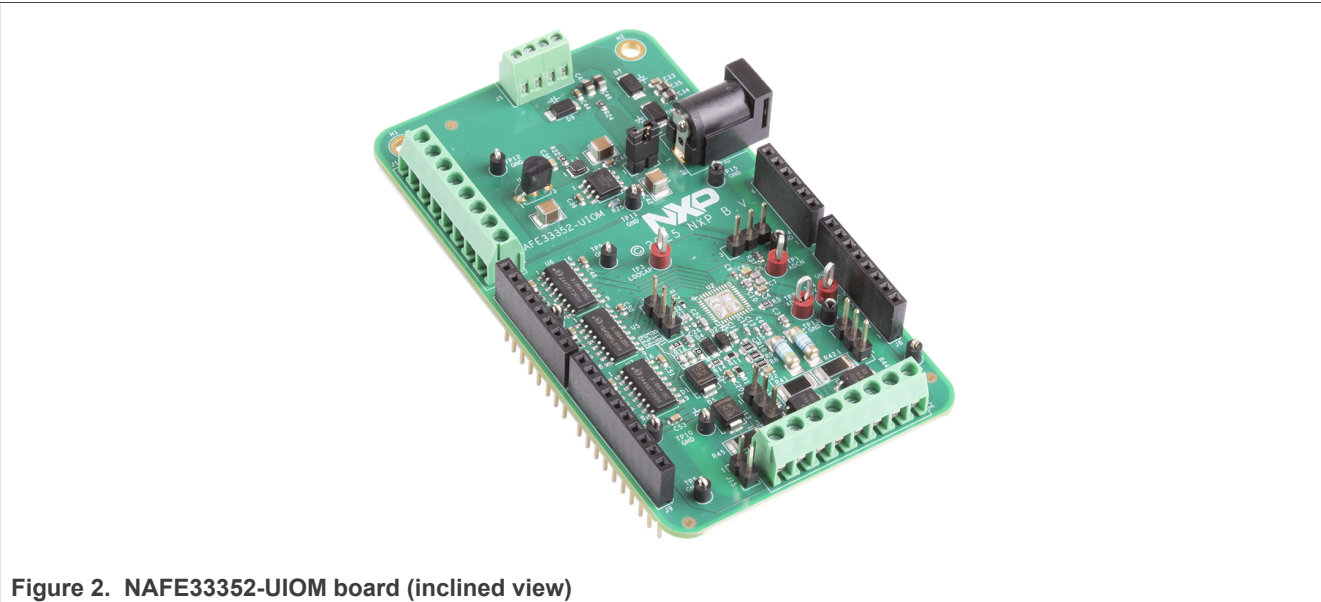

Figure 2. NAFE33352-UIOM board (inclined view)
Step 2: To connect both boards, slide J8, J9, J10, and J11 male connectors at the bottom side of the NAFE33352 (AFE) evaluation board into the appropriate female connectors on the FRDM MCX-N 947 evaluation board (refer Figure 2).